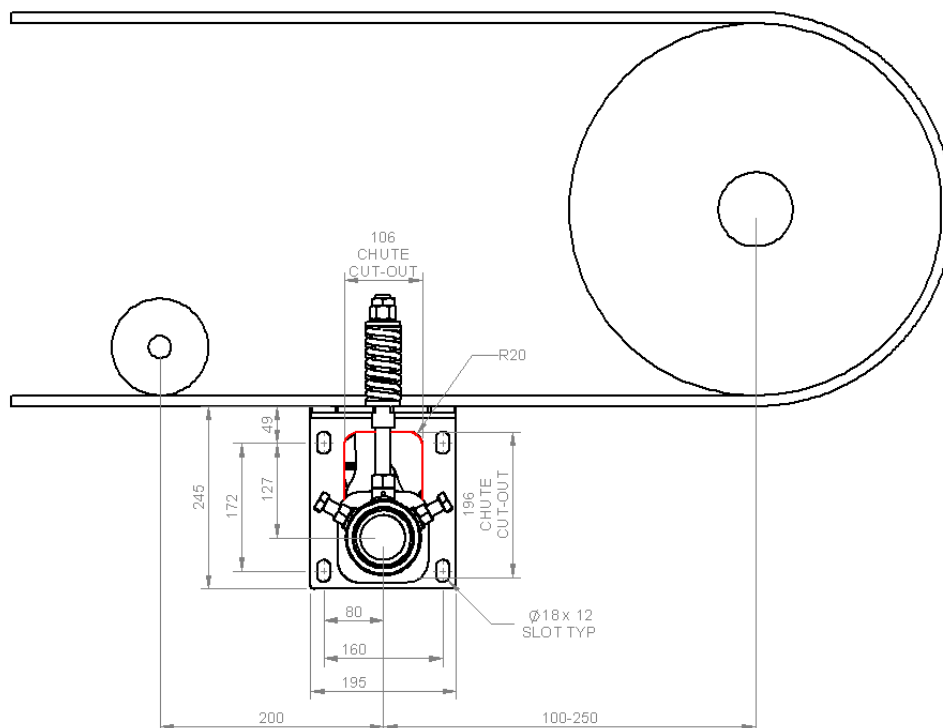

Fig 1
- 1- The ideal position for the MUS2 Secondary Cleaner is 100mm to 250mm behind the tangent point where the conveyor belt leaves the pulley (the tangent point) refer to fig 1.